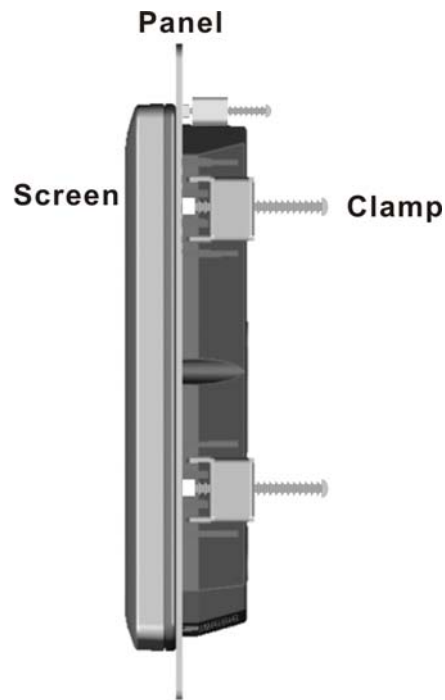

Figure 3-14: Tighten the Panel Mounting Clamp Screws
- Step 5:** Tighten the screws that pass through the panel mounting clamps until the plastic caps at the front of all the screws are firmly secured to the panel (**Figure 3-14**).